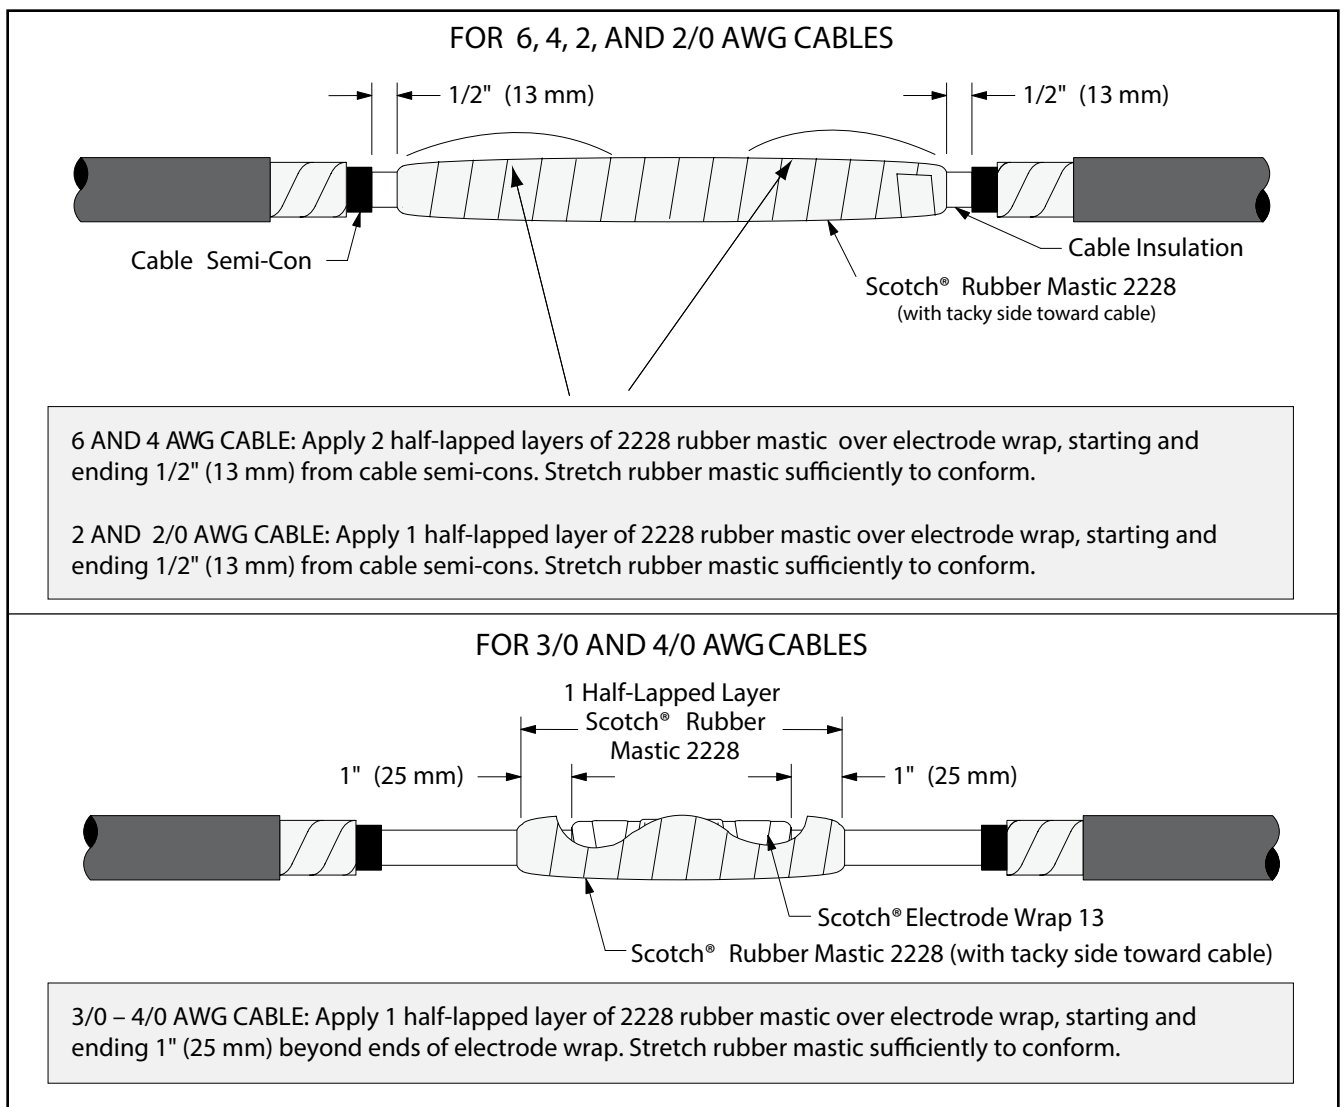

Figure 10
6.1 Apply Scotch® Rubber Mastic 2228 tacky side down toward cable (*Figure 10*).